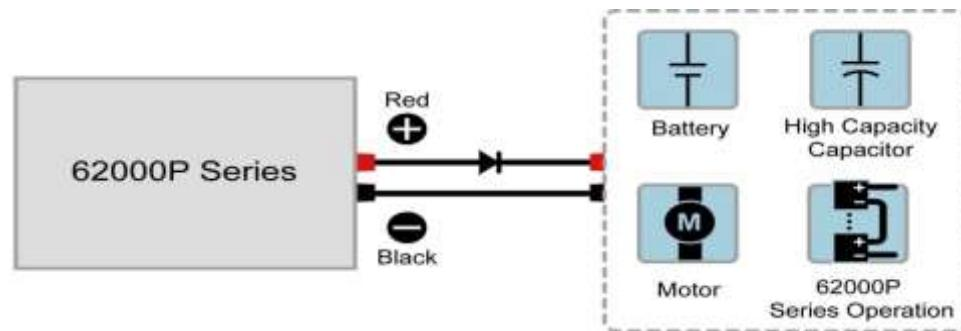

Figure 1-1
14. If it is applied to battery charge or inductance load such as motors, the output port needs to connect a diode in series to prevent the load current from backwash and damage the device interior. See Figure 1-1. Moreover, it could cause the power supply to be damaged and short circuited if the positive and negative are connected reversely.